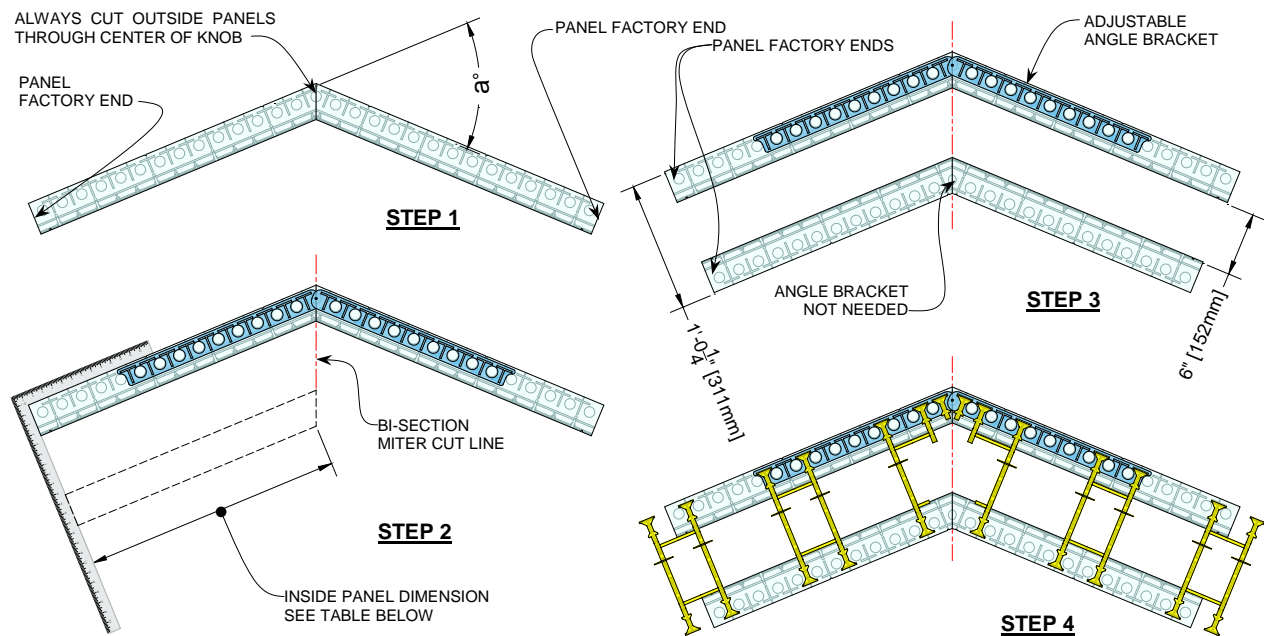

Figure 60: Angled Wall Cutting, Bracket & Tie Placement (Imperial)
4.4.1.1.1 Steps for cutting and assembling outside panels (Refer to Figure 60 below)
4.4.1.1.2 Steps for cutting and assembling inside panels (Refer to Figure 60 below)